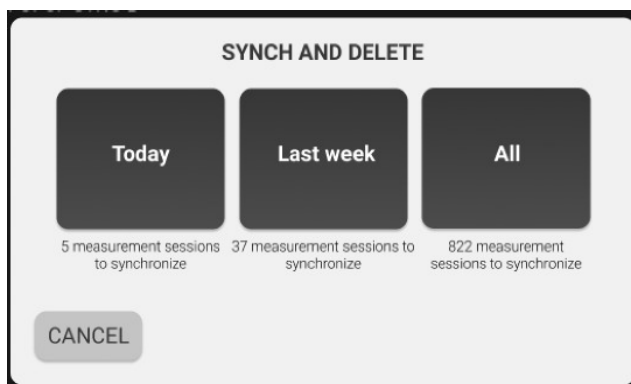

Figure 22 - Synchronization selection
6. Select *Synch and delete* to synchronize and delete data from the internal database. The Synchronization can be performed on measurements of the current day, last week or all data (Figure 22). Once data synchronization is ended, the data on the device will be deleted.